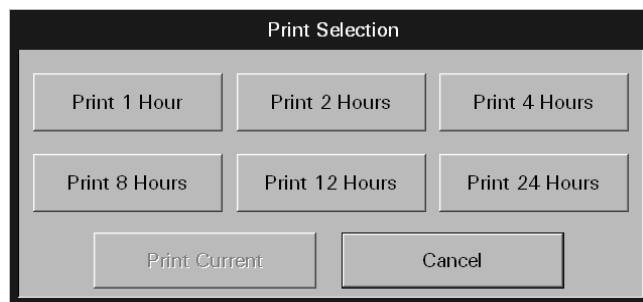

FIGURE 8-9 Print Selection Dialog Box
1. Select the **Full Disclosure Report** button in the **Patient Reports** tab. The Print Selection dialog is displayed (shown in FIGURE 8-9).
3. From the menu bar, select the **Print** button. The Print Selection dialog is displayed (shown in FIGURE 8-9).
- From the Patient Reports tab, select the **Trend List Report** button. The Print Selection dialog is displayed (shown in FIGURE 8-9).